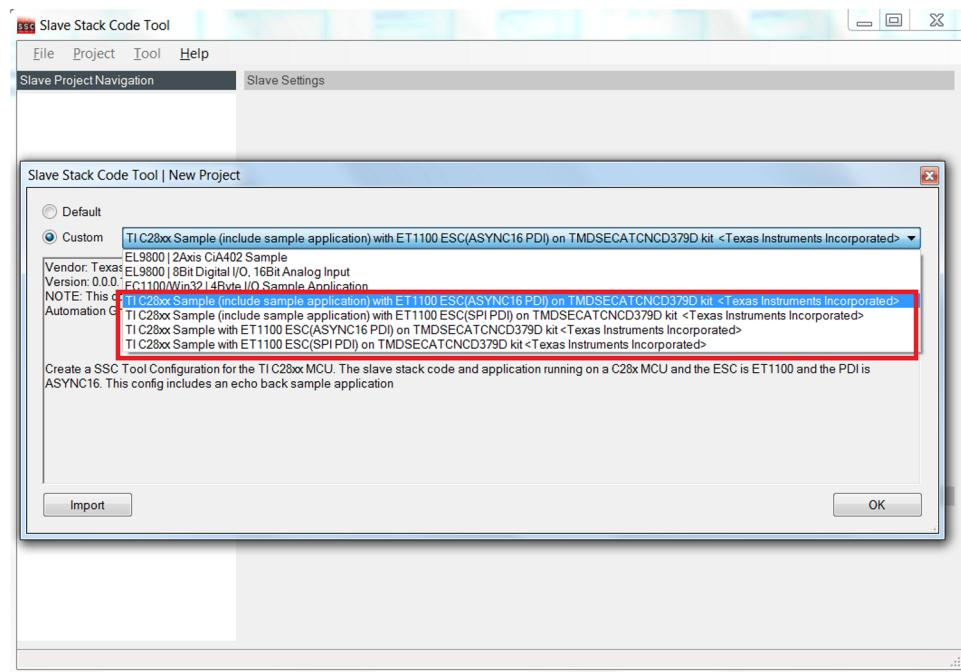

Figure 11. New Project Options
3. When the user selects the drop-down menu, the following options are provided (see Figure 11).